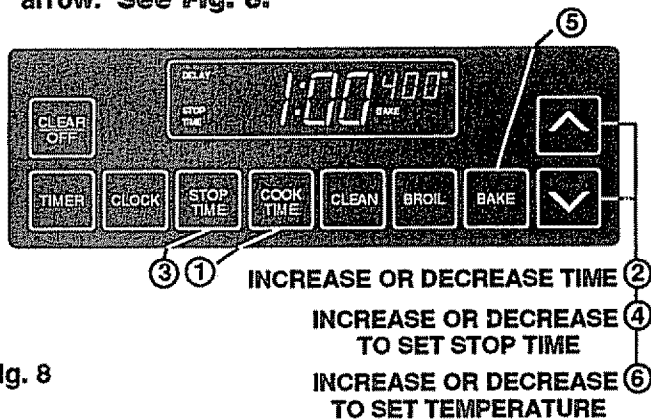

Fig. 8
6. Select temperature by pressing the **UP** or **DOWN** arrow. See Fig. 8.